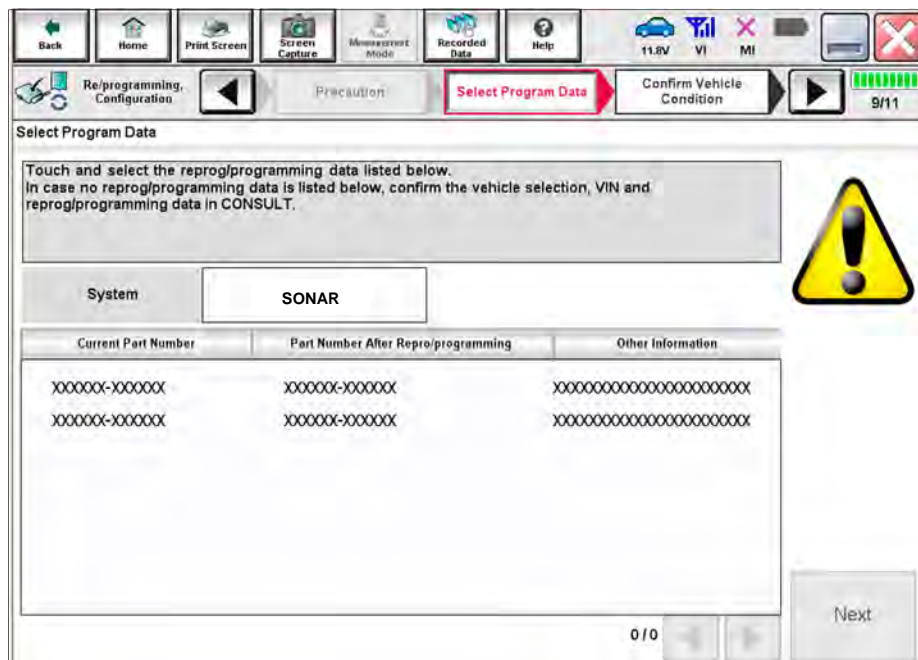

Figure 17
- If more than one new part number is available, the screen in Figure 17 displays.